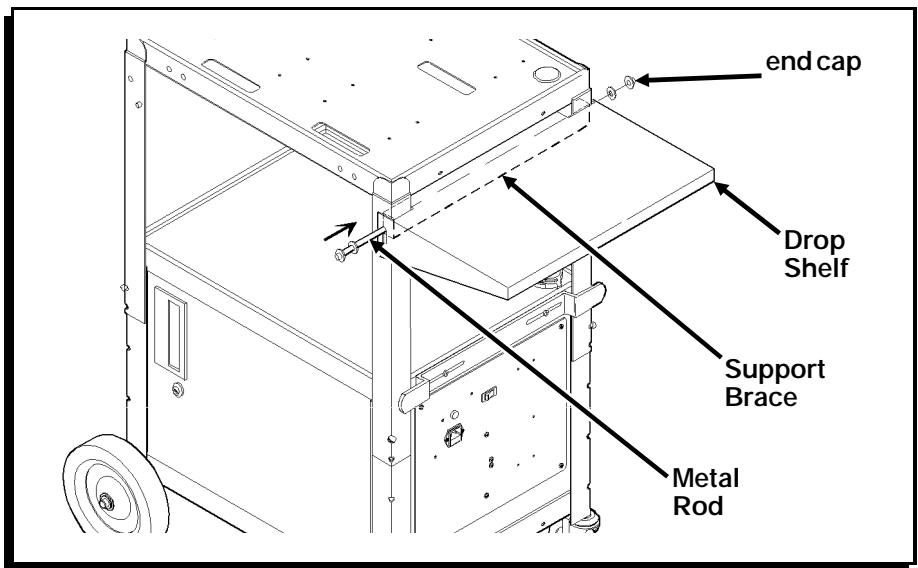

Figure 7
6. Position the rear lip of the drop shelf over the support brace so the shelf rests in the extended position. (Figure 7.)
9. Slide the metal rod through the slot in the side of the drop shelf and into the hole in the Station's corner support. Push the rod until it exits through the hole in the other corner support. You may have to reach under the support brace to guide the rod into the opposite hole. (Figure 7.)
10. Slide a plastic washer onto the exposed end of the metal rod. (Figure 7.)
11. You might need another person's help with this step. Hold the head or side of a hammer firmly against the end of the rod with the end cap. While maintaining pressure, use a second hammer to hammer an end cap onto the exposed end of the rod. The end cap should lock firmly. (Figure 7.)